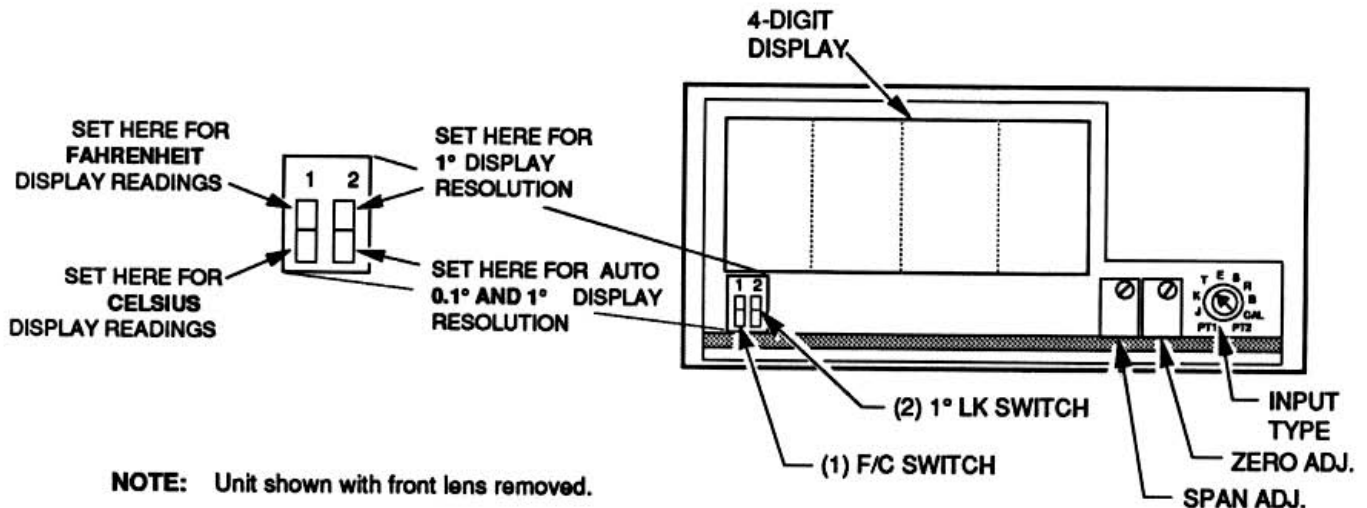

Figure 1. Standard TPD Controls Behind Front Lens
The most frequently used controls on the standard TPD are behind the front lens cover. The lens snaps into place and can be removed with a small slotted-head screwdriver or pulled off by hand to access these controls. A narrow cutout at the bottom of the lens is provided to gently pry it away from the housing. Figure 1 shows the location of the controls that are behind the front lens cover.
6. Set F/C DIP switch to desired output type. See figure 1.
7. Set 1°LK switch to desired resolution. See figure 1.